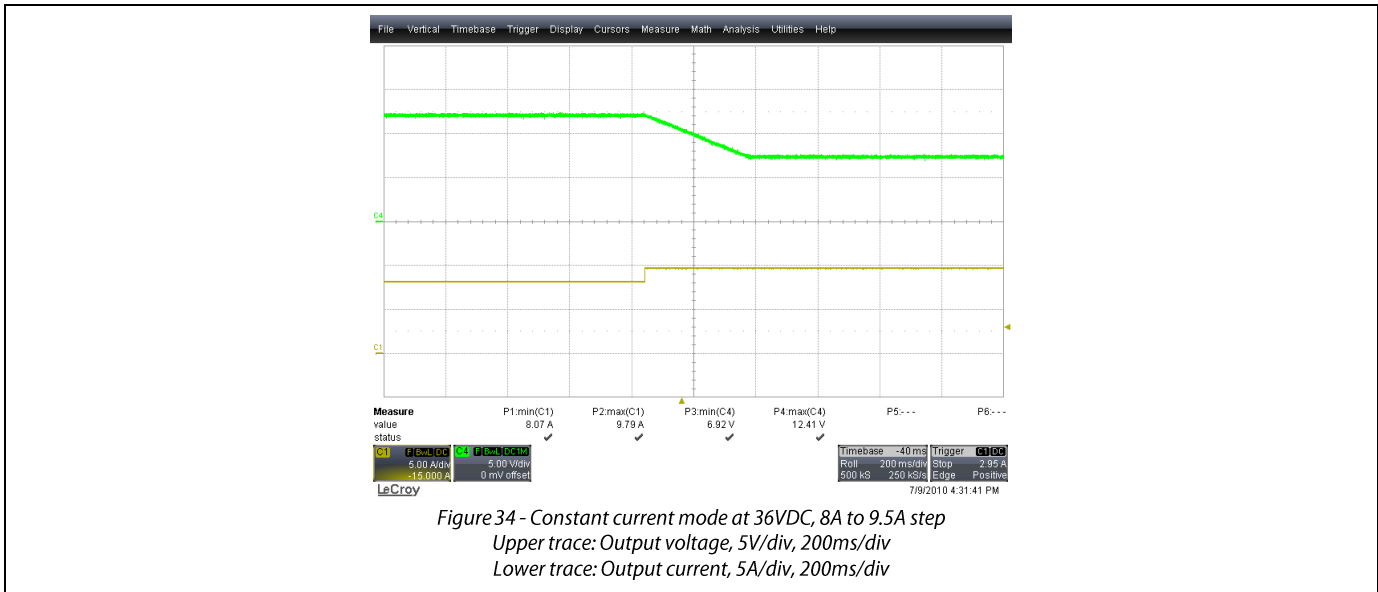

Figure 34 - Constant current mode at 36VDC, 8A to 9.5A step
- B. **Constant Current Mode:** Figure 34 shows the output voltage ramping down linearly by 60% during constant current mode.